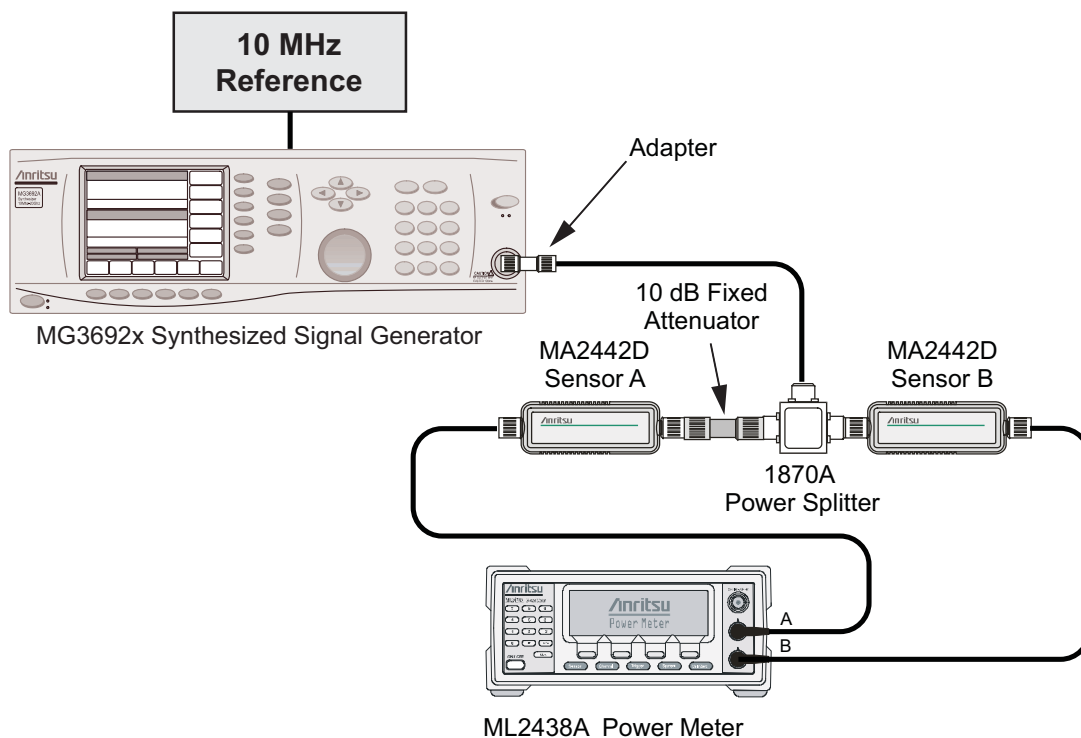

Figure 3-1. Power Meter Measurement Accuracy
2. Connect the model 1870A power splitter to the MG3692A/B output, and connect Sensor B to one of the power splitter outputs as shown in Figure 3-1 on page 3-1.